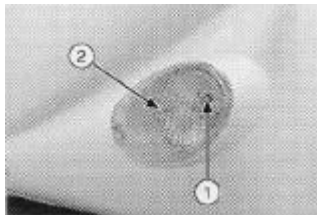

Fig. 26
B) FRONT INDICATORS (FIG. 26)
1. Remove the screws (1 -FIG. 26).
2. Remove the glass shield (2 -FIG. 26) taking care not to snap the catch.